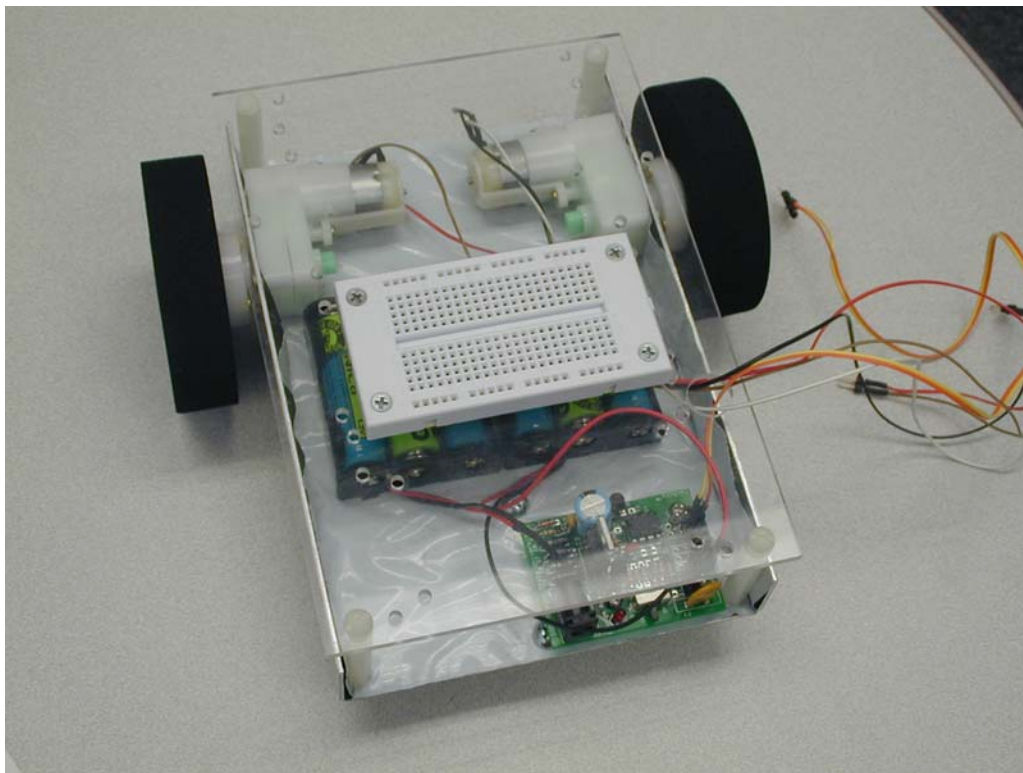

Figure 6. Placement of Breadboard
3. To assemble circuits quickly for prototyping a device called a 'breadboard' (or 'protoboard') is often used. Components can be easily inserted into a set of holes and connected together with wire. Locate the breadboard in your kit and remove it from the box. Now you need to make sure that the internal contacts are firmly seated. You do this by pushing on the backside of the board with your thumbs; Figure 6 shows how this is done.
4. Now you can affix the breadboard to your robot. Use the 4-40 5/8" metal machine bolts, and force them through the holes in the breadboard. This then attaches to the Plexiglas layer in your kits. The Plexiglas layer then in turn attaches to the base of your robot using 8-32 Nylon bolts and the nylon standoffs. Bring the wires from the motors and the power cable through the hole in the Plexiglas. Figure 6 shows the placement of the breadboard on the Plexiglas.